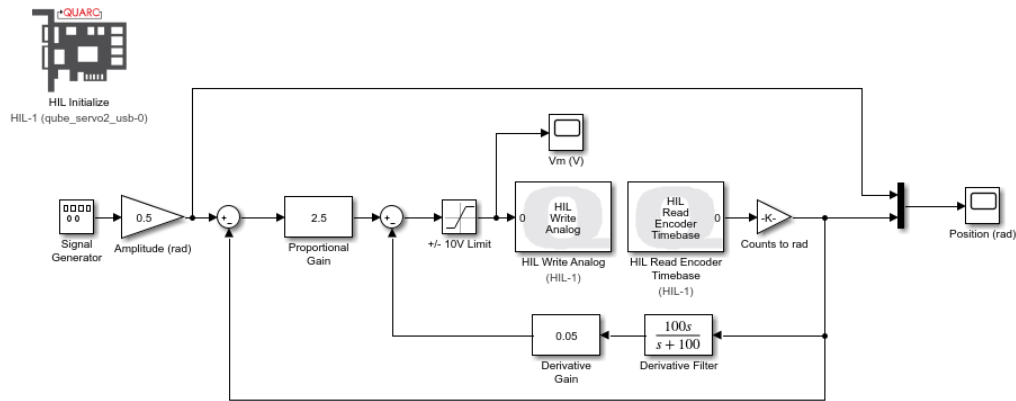

Figure 2.1: Implementation of proportional and rate feedback control on QUBE-Servo 2
The Simulink model shown in Figure 2.1 implements the proportional plus rate feedback, or PV, control outlined in 1.3. As discussed, the control includes a filter with the derivative,  $100s/(s + 100)$ , instead of using a direct derivative.
1. Open the Simulink model shown in Figure 2.1. Alternatively, design your own using the Filtering laboratory experiment as a basis.